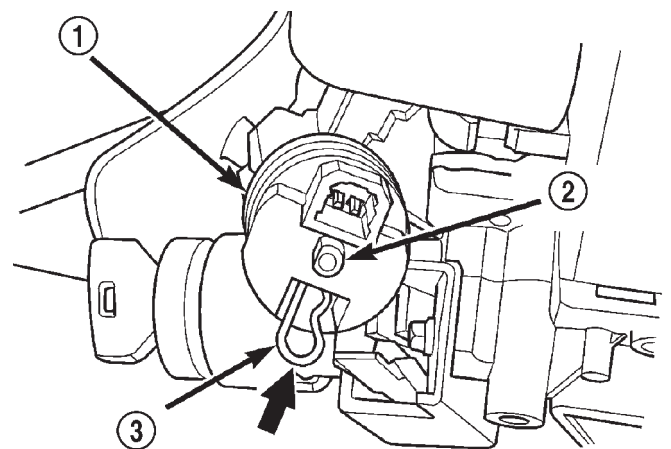

Fig. 74 Solenoid Retainer Clip Installation
(3) Install the retainer clip until it snaps into place in the slot cut into the shift lever mounting stud (Fig. 74).
(4) Verify the BTSI solenoid is locked in place and will not slide off the mounting stud.
(5) Connect the wiring harness connector to the BTSI solenoid.
(6) Verify the BTSI is operating properly. With the ignition on (engine not running) and the parking brake applied, try shifting the transmission shift lever out of the PARK position with and without the brake pedal being applied. The shift lever should